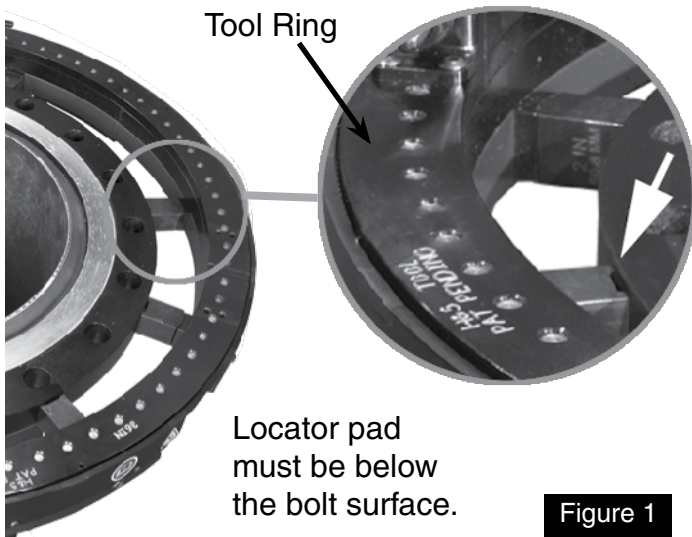

Figure 1
**1. Proper Location** - Use approved lifting equipment to suspend the tool. Center the tool on the flange by measuring from the inside of the tool ring to the outside of the flange bolt ring. Measure in four directions at 90° points and slowly tighten the locator pads to secure the tool. Snug the locator pads evenly with just enough pressure to hold the tool in position. The locator pads must be approximately 1/4" (.065 mm) below the bolt pattern surface (Figure 1). **DO NOT REMOVE THE SUSPENSION EQUIPMENT UNTIL THE LOCATOR PADS ARE FULLY TIGHTENED.**
Once the plate, or the brackets, are mounted, make sure that the adjustment screw is not touching the work surface. Place the dial indicator on the plate (Figure 4), or on the tool ring when using the brackets (see Figure 1). Rotate the ring to find the lowest point. Turn the adjustment screw clockwise until it contacts the work surface. Continue to turn it until the dial indicator shows the desired reading. Continue this process until the tool is properly squared all of the way around the surface.